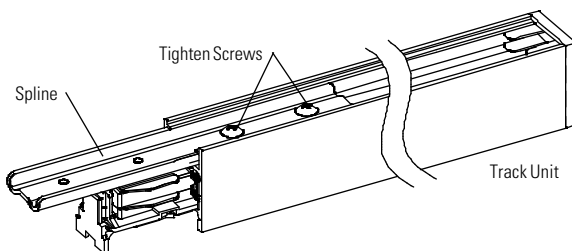

Fig. 5
4. Insert metal spline into the track approximately half the distance of the metal spline length (Fig 5). Note orientation of spline in channel.